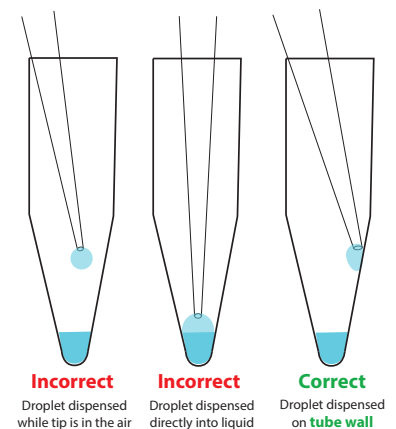

Figure 4. Pipetting Technique
1. Manual Pipetting Technique: All reagent additions should be dispensed onto the wall of the tube or well as shown in Figure 4. To avoid material loss in the reaction, it is important to avoid direct contact between pipette tips and the cell suspension, lysate, or other reaction intermediaries during manual reagent additions. Loss of a small amount of liquid is unavoidable whenever the pipette tip is allowed to come into contact with the reaction mix.